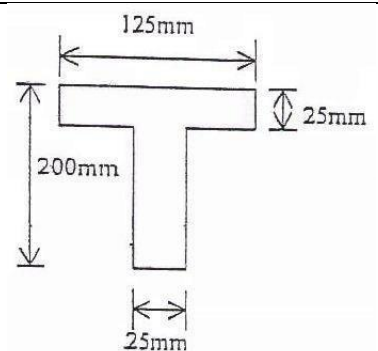

Fig. 4
5.	A CI beam of I section (Fig. 4) is simply supported over a span of 5 m. If the permissible stresses are $80 \text{ N/mm}^2$ in compression and $30 \text{ N/mm}^2$ in tension, what UDL can be safely applied on the beam?
5.	A beam AB supported at its ends has a span of 3 m and carries a point load of 15 kN at 2m from left support. The cross-section of the beam is as shown in Fig. 4 . Sketch the maximum shear stress distribution in the beam marking the principal values. Also find the ratio of maximum to mean shear stress.